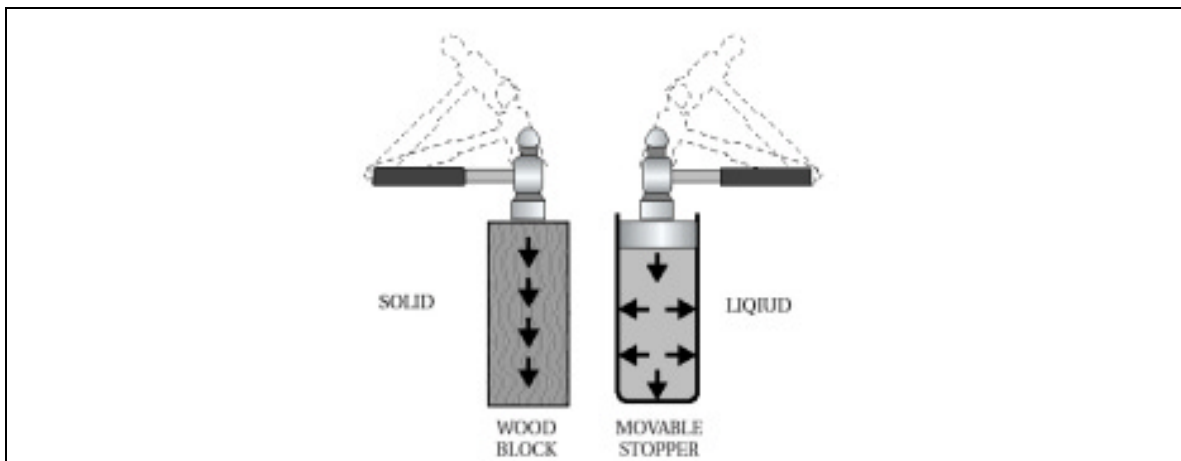

Figure 1-3 Pascal's Law
3. **PASCALS LAW SIMPLY STATED, IS: “PRESSURE IN AN ENCLOSED CONTAINER IS TRANSMITTED EQUALLY AND UNDIMINISHED TO ALL PARTS OF THE CONTAINER AND ACTS AT RIGHT ANGLES TO THE ENCLOSING WALLS.”** This is demonstrated in Figure 1-3. This is an important law and will be discussed in more detail, later in this book.